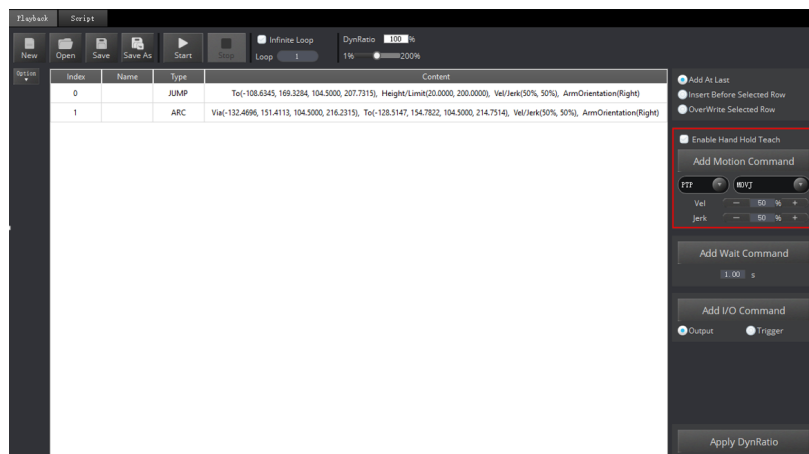

Figure 6.5 Choose motion mode
Step 4 Select **PTP > JUMP** on the **Playback** page, as shown in Figure 6.5. The constraints in JUMP mode are as shown in 6.1.4 *Saving point in JUMP Mode*.